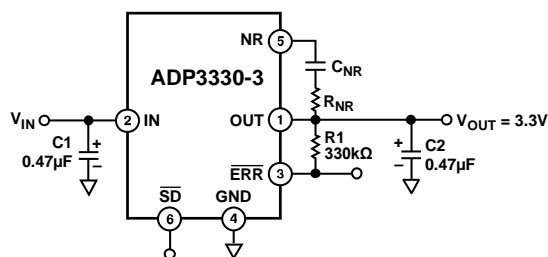

Figure 23. Noise Reduction Circuit
A noise reduction capacitor ( $C_{\text{NR}}$ ) can be used to further reduce the noise by 6 dB to 10 dB (see Figure 23). Low leakage capacitors in the 10 pF to 500 pF range provide the best performance. Carefully connect to this node to avoid noise pickup from external sources because the noise reduction pin (NR) is internally connected to a high impedance node. The pad connected to this pin must be as small as possible and long PCB traces are not recommended.